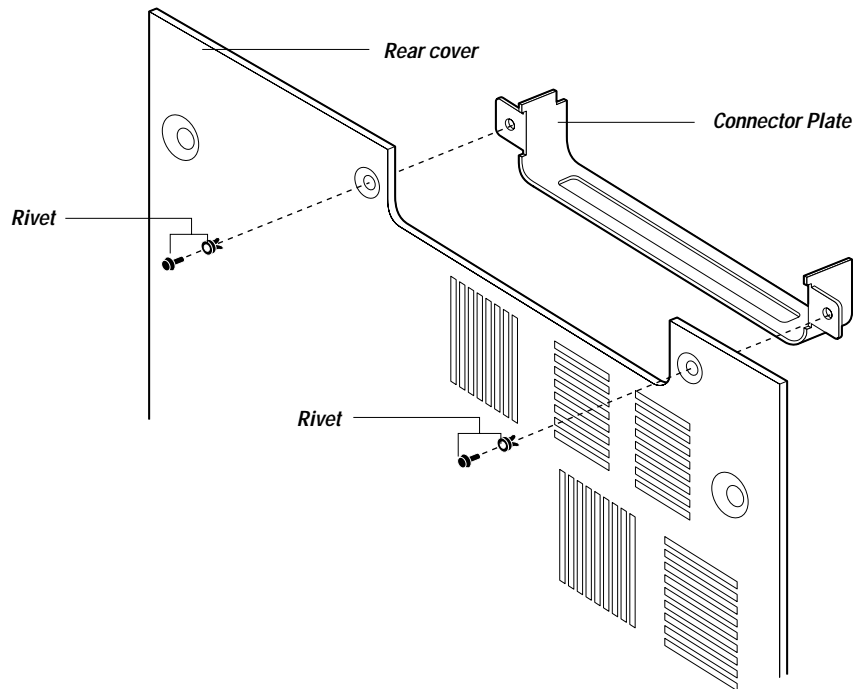

Figure 3-10 Installing the connector plate in the rear cover
2. *Place the connector plate in the empty slot on the inside of the rear cover (see Figure 3-10 on page 3-12).*
3. **Insert the black rivets into the connector plate to secure it to the rear cover as shown in Figure 3-10.**